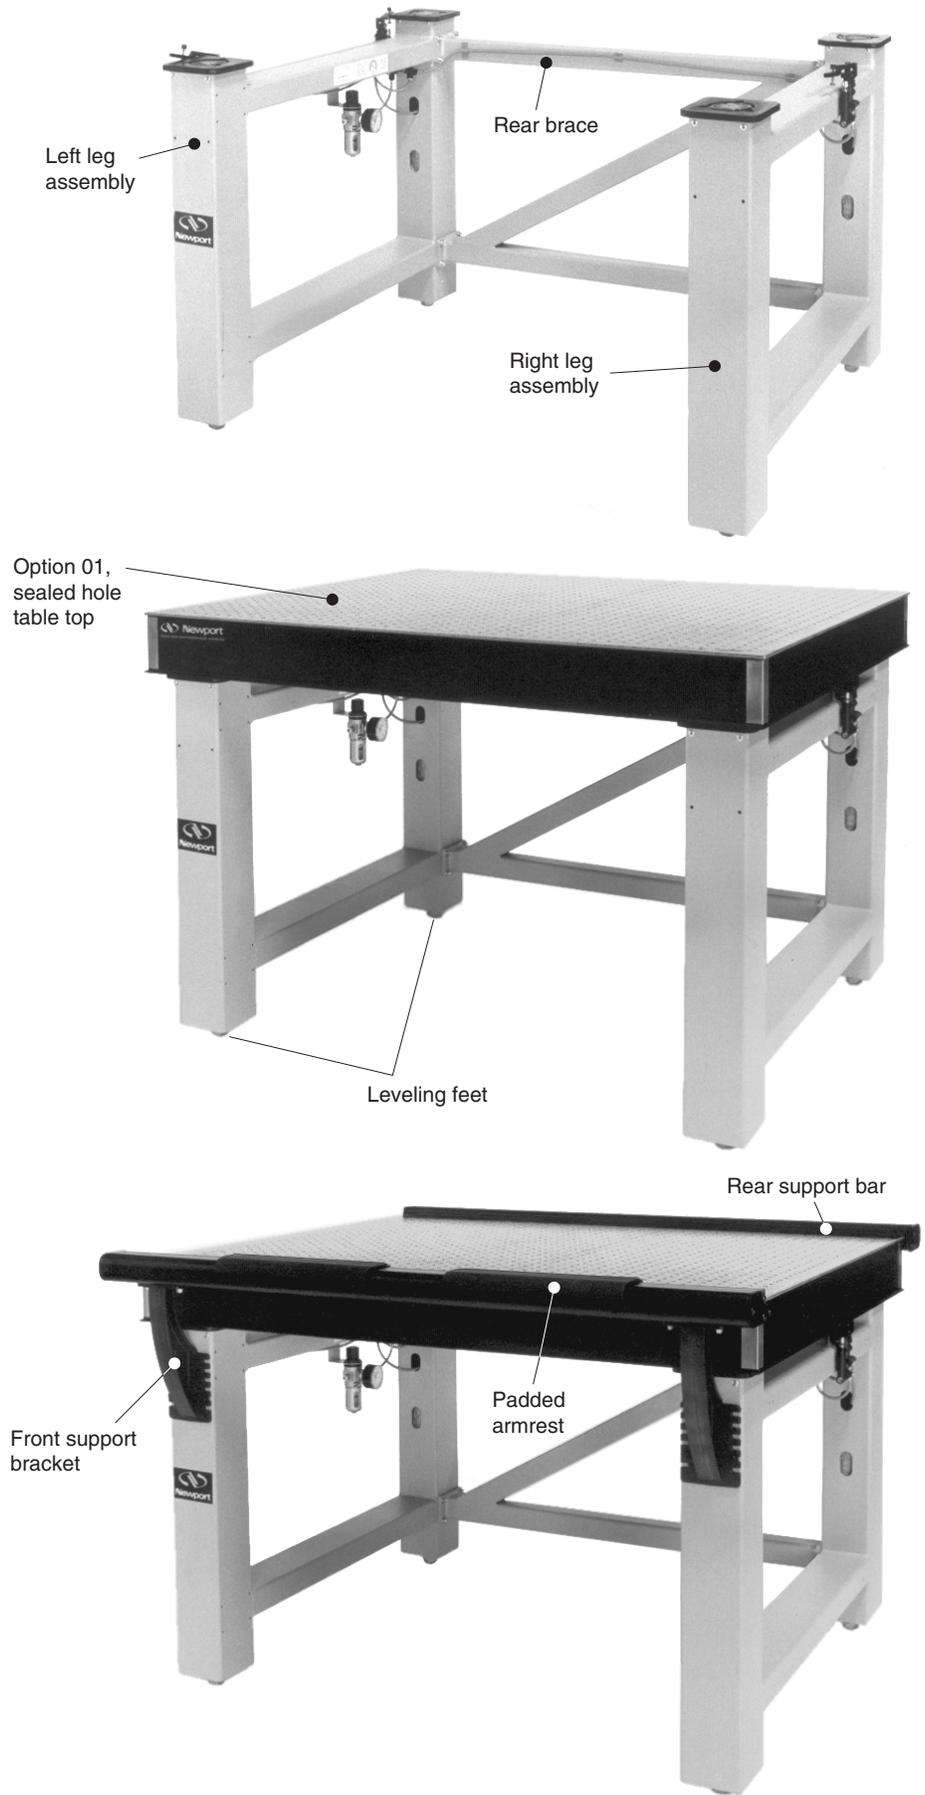

Figure 1.1 — Assembly Orientation
The VW Series Workstation components have been packed in labeled boxes. Make sure the total number of delivered crates equals the total number listed on the labels. The components have also been labeled for better identification during assembly. Go over the assembly orientation diagram (figure 1.1) while unpacking and verify the presence of all ordered parts. Carefully inspect all components for any damage that may have occurred during shipping. Report any such damage to the shipping agent at once.
- D. Layout the right and left leg assemblies along with the rear brace as shown in figure 1.1.